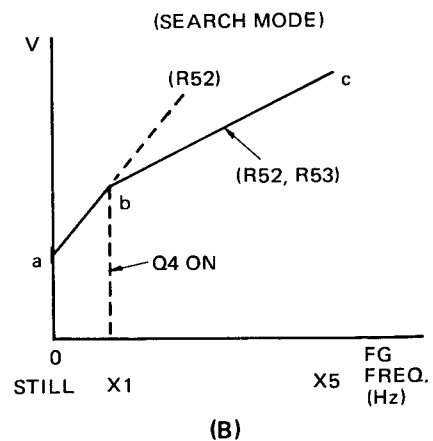

Fig. 3-49 F-V sensitivity
Since accurate tape speed is required in the normal mode, the converter possesses high sensitivity in the 570 Hz region as shown in Fig. 3-49 (A).
In the Search mode, as seen in Fig. 3-49 (B), the sensitivity is lower at higher speeds to avoid hunting effects, but at slow speeds high sensitivity is selected for controlling the capstan motor.